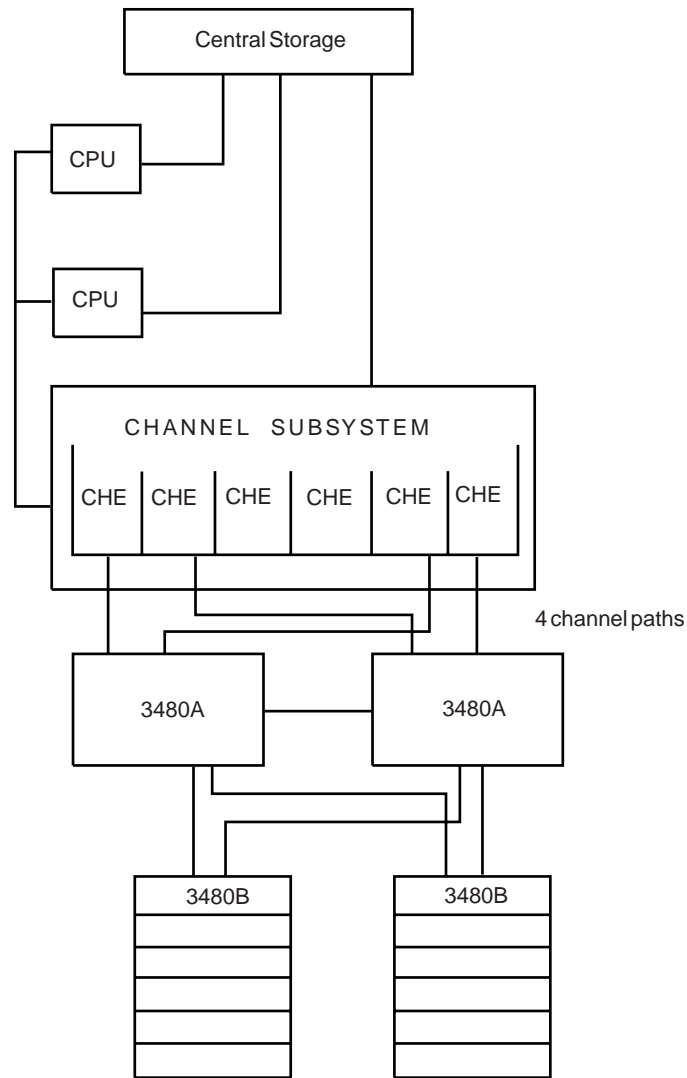

Figure 12-6. Unit Record or Local Display Device Configuration for Maximum Availability (3090 Complex)
- Figure 12-6 on page 12-7: Unit record or local display device